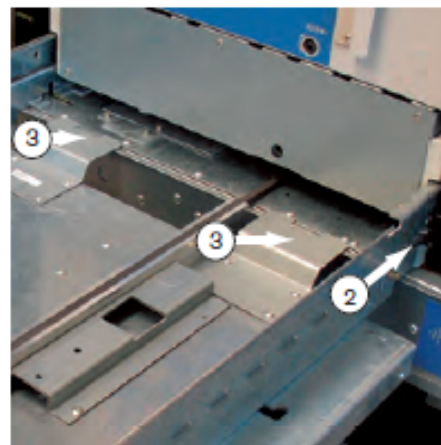

Figure 33
3. Move trolley to the panel so that the lateral guides (Figure 33, 2) are close to the panel, and turn lever (1) back to the right. The trolley is locked on the panel (3).